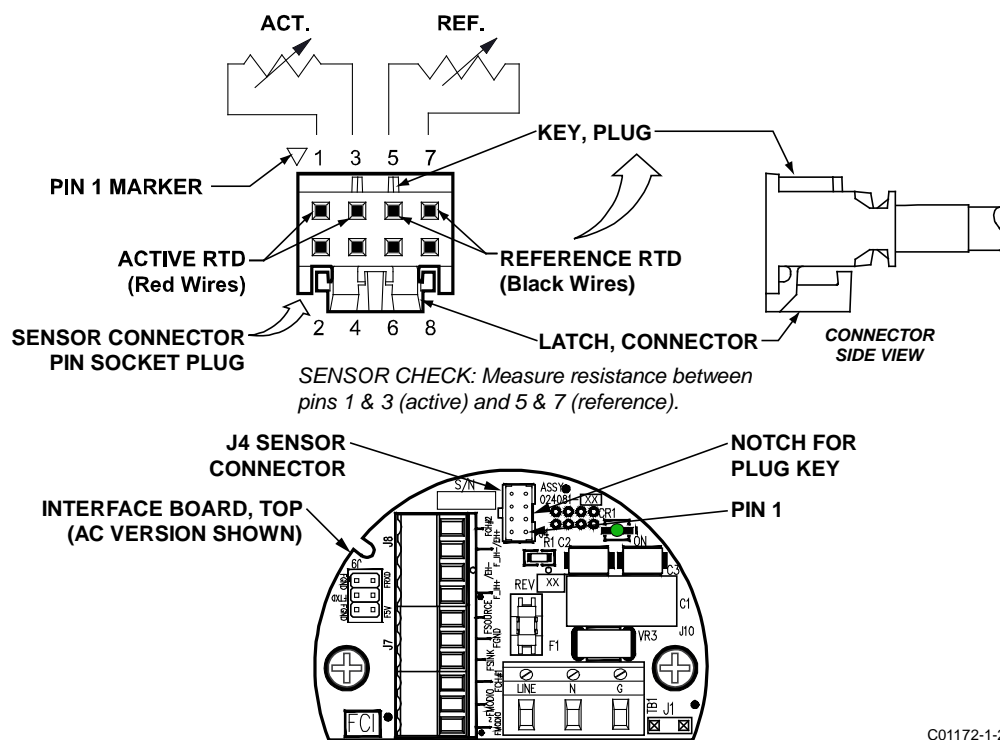

Figure 28 – Reference and Active Sensor Resistance Check (AC Version Shown)
4. Using an ohmmeter measure resistance between socket pins 1 & 3 (active) and socket pins 5 & 7 (reference). Verify that both readings are within  $1100 \Omega \pm 20 \Omega$ . The resistance is temperature dependent. The resistance at 70 °F is approximately 1082  $\Omega$ . Refer to Figure 28 below.